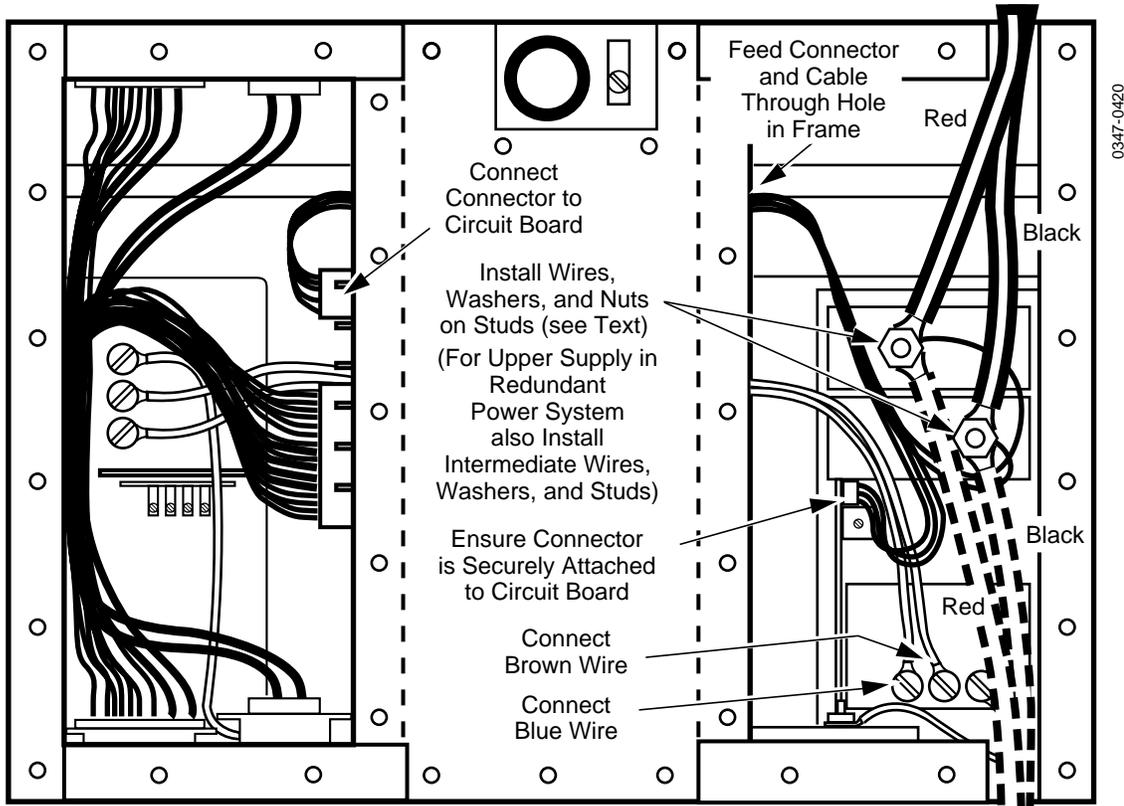

Figure 4-6. Installation of Todd +5 Volt Power Supply Assembly
2. Feed the small multi-wire cable from the new power supply through the hole at the top left of the +5V supply compartment (see Figure 4-6), and on through the frame to the hole into the Multi-Output supply compartment. If necessary, gain access from the front of the frame.